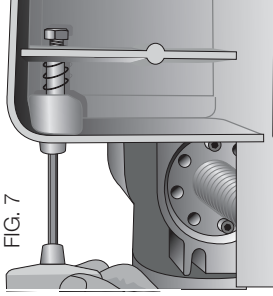

FIG. 7
6. On the underside of the planer, use a wrench to hold the nut in place while turning the stepped bolt into it. The T-wrench on your planer can be used to turn the stepped bolt until it is fully secured (Fig. 7).